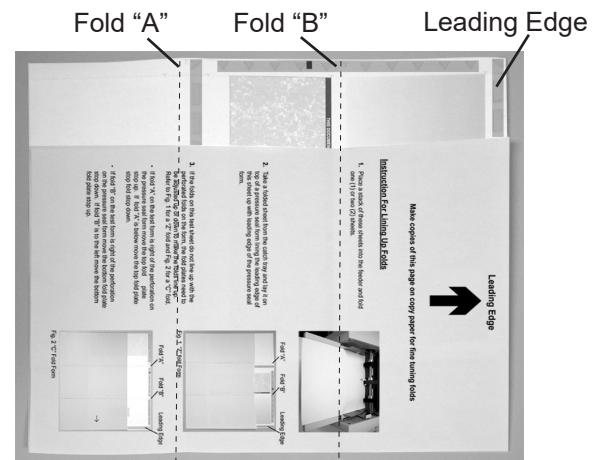
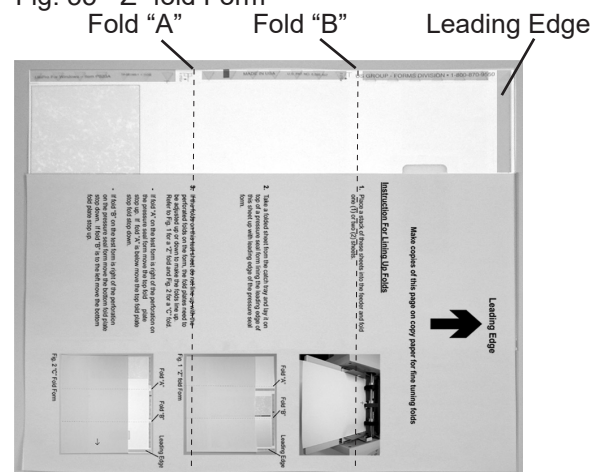

Fig. 35 "Z" fold Form
Fig. 36 "C" fold Form
1. Place a stack of these sheets into the feeder and fold one (1) or two (2) sheets.
3. If the folds on this test sheet do not line up with the perforated folds on the form, the fold plates need to be adjusted up or down to make the folds line up. Refer to Fig. 35 for a "Z" fold and Fig. 36 for a "C" fold.